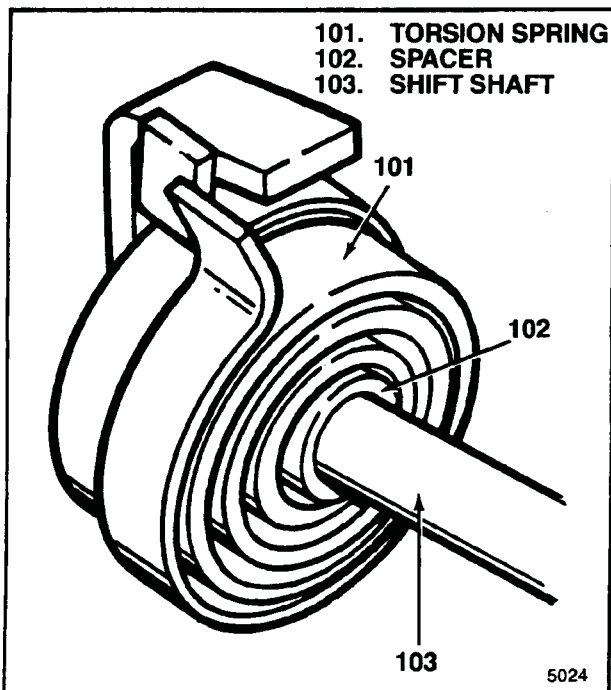

Figure 5-4. Installing First Spring End
- Insert spacer (102) in torsion spring (101) ID and install over free end of shift shaft (103).
- Slide torsion spring (101) and spacer (102) on shift shaft (103) up to drive tang and position first spring end to left (viewed from free end of shaft) of drive tang (see figure 5-4).